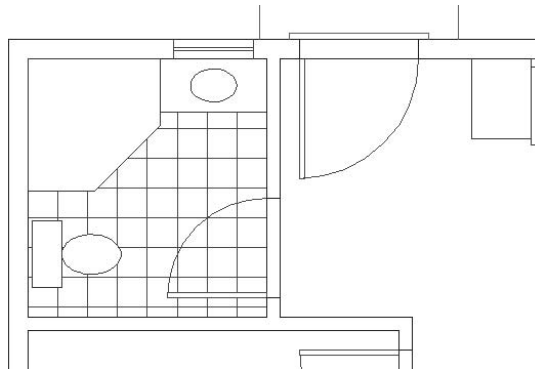

FIGURE 9.17 The tiled hatch pattern in place
8. Right-click, and choose Preview from the shortcut menu. The tiled hatch pattern should fill the bathroom floor and stop at the header, while not going onto the door or fixtures. If the tile pattern looks OK, right-click again (see Figure 9.17).